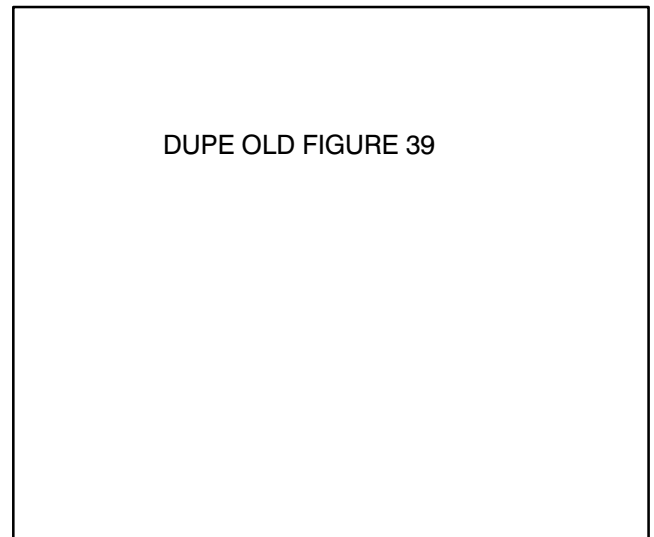

Figure 39
6. Slowly move throttle to FAST position until engine speed reaches 3200 ± 100 rpm. Shut off engine. Adjust high idle stop screw until it contacts speed control lever (Fig. 39).
8. Check V-belts from engine to governor pulley and assure they are tight. If belts are loose, the engine will surge. If belts are tensioned properly, loosen jam nut that retains the anti-surge screw (Fig. 39). Rotate screw clockwise 1/8 turn at a time until surging stops. Should governor continue to surge, check the following:
3. Clean area around check plug on governor (Fig. 39)